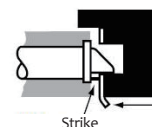

Figure 13
- a Latch bolt must stop on strike when door is closed. (Figure 13)